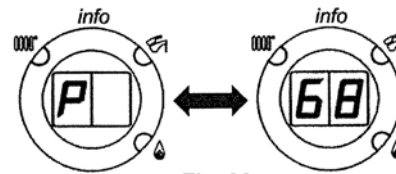

Fig. 30
**Note: In "calibration mode", the display alternates between the message "P" and the boiler output temperature about every 5 seconds. (figure 30).**